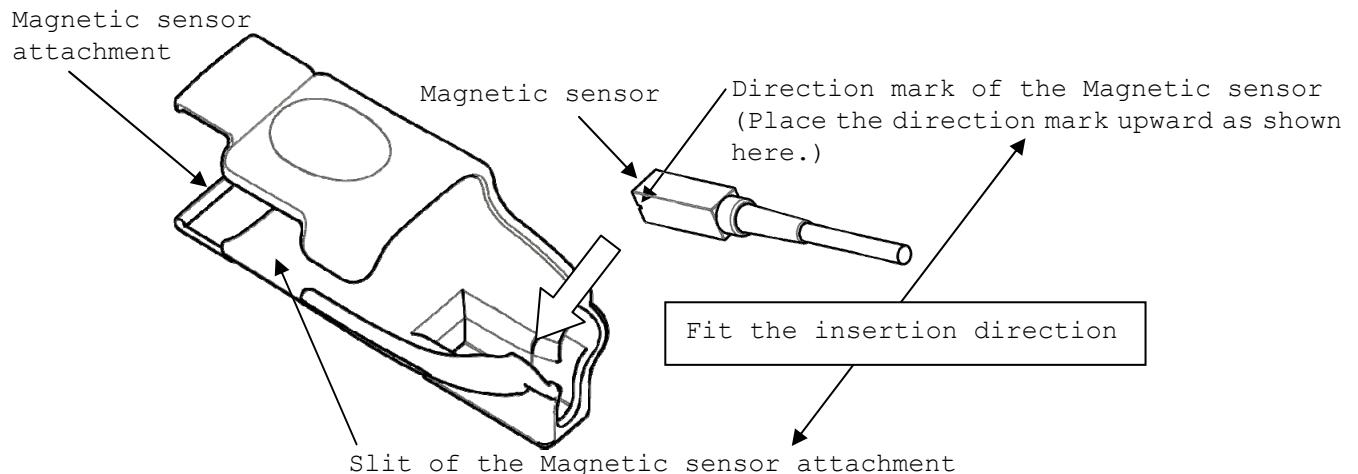

Fig. 4 How to attach the Magnetic sensor
- b) Insert the magnetic sensor into the magnetic sensor attachment with correct direction as shown in Fig. 4.